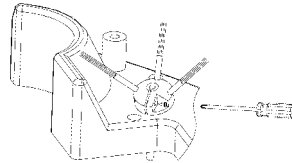

Fig. 2
2. Turn the side brush to the extent that the screwdriver can be inserted as per the Fig.2, loosen the screen, take off the old brush and replace with new one.